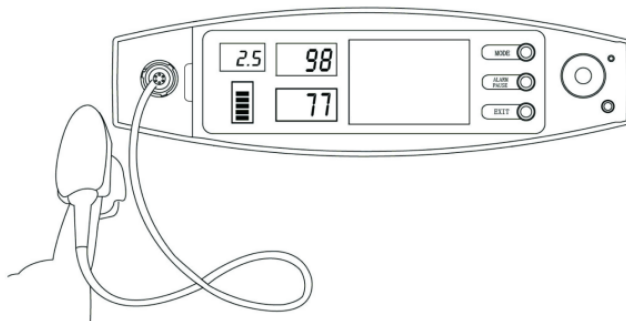

Figure 4. Sketch map for finger placement
- ⚠ The finger should be placed correctly(see Attached figure 4), as improper installation or improper contact position for sensor will influence the measurement.
Put the finger into the probe as Figure 4.
(The appearance of actual probe may be different with the one shown as Figure 4, please refer to the actual probe.)